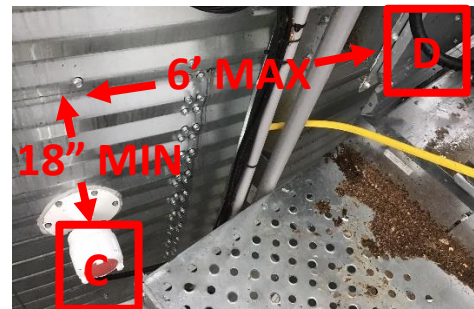

Figure 27
- Dryer storage full rotary paddle mounted 18in under and no more than 6ft from burner inlet. Ex (Figure 27)